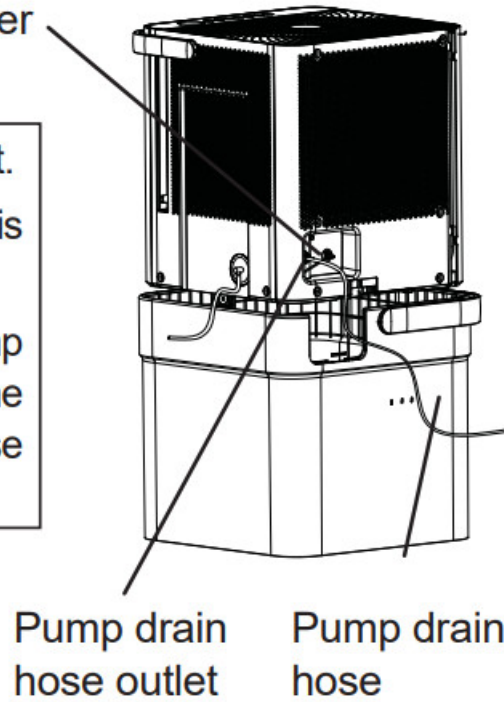

Fig. 12
- To install the pump hose, remove the plug from the pump drain hole and firmly attach the included pump hose as shown in Fig. 12.